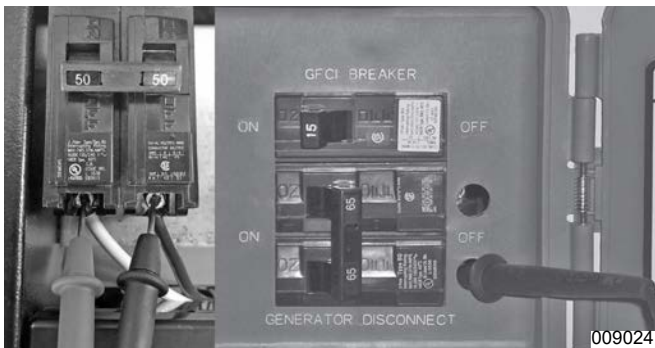

Figure 3-56. MLCB Test Points 2017 and Newer (Left) Pre 2017 (Right)
1. See Figure 3-56. Connect an accurate AC frequency meter across the Wires 11 and 44 Terminals of the generator main line circuit breaker (MLCB).